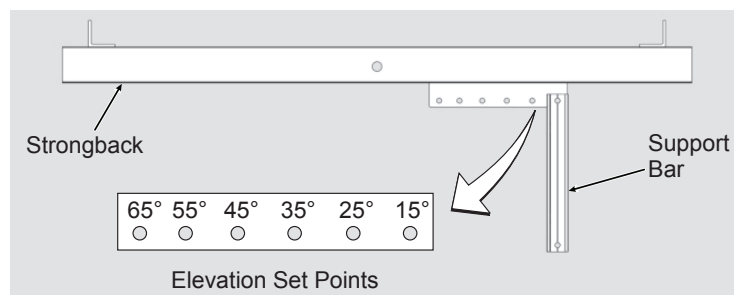

Figure 10-2:
- Tilt the rack to the desired elevation angle (15°, 25°, 35°, 45°, 55° or 65°) and re-attach the Support Bar to the Strongback, placing the 3/8" hardware in the appropriate hole matching the desired elevation. Torque at 32-34 ft./lbs. (See Figure 10-2)